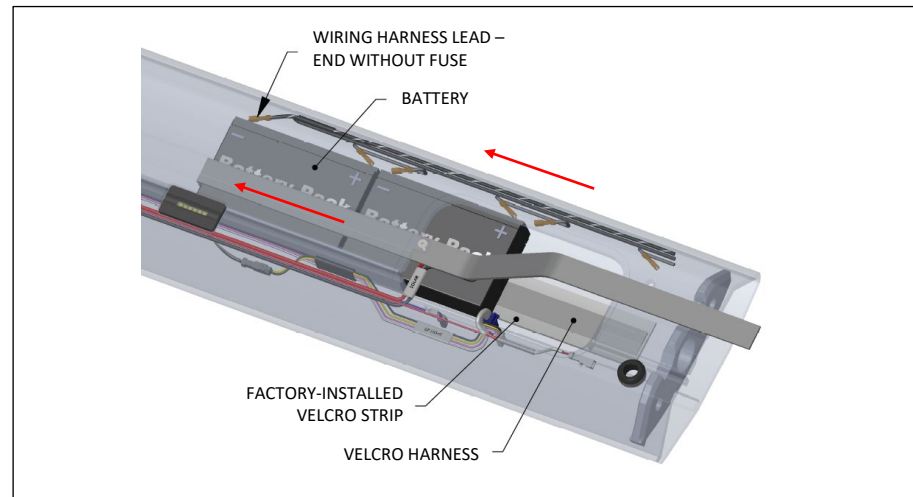
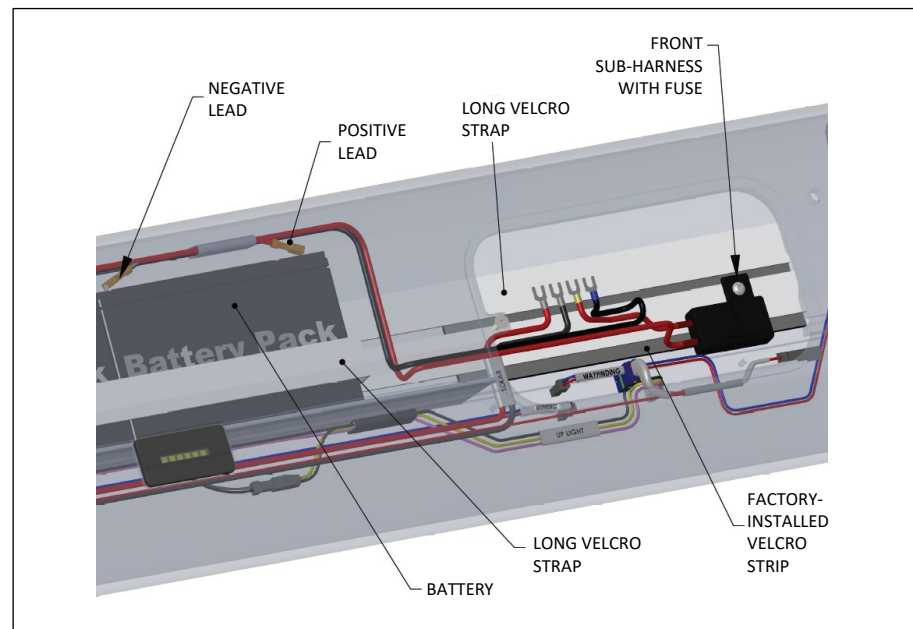
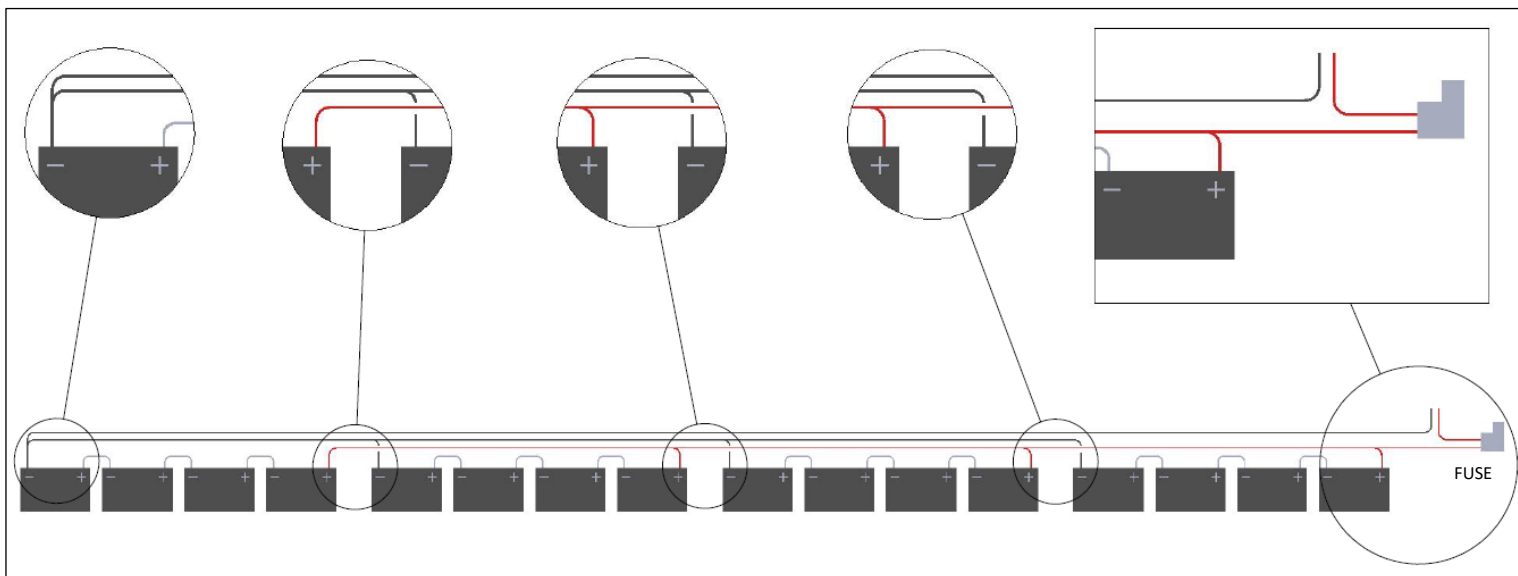

Fig. F2 – battery install in front horizontal
Fig. F3 – battery install in front horizontal
Fig. F4 – battery connection diagram for 12ft shelter
1. Remove access cover in horizontal beam near front right post. Ensure Velcro strip is installed on front horizontal beam. Secure one end of long Velcro harness to the top half of the strip mounted in the horizontal beam. Connect (-) lead of the battery harness to the first battery (-). Install short jumper harness to the positive pole of the battery as shown in Fig. F2. Attach the other end of the jumper harness to the second battery. Install the second battery. Repeat this process for batteries 3 and 4, with the 4th battery hooking up to the main wire harness (+) connector. Repeat this process for the remaining batteries. See Fig. F4 for wiring reference. Slide each battery into Velcro harness as it is being installed. Once all batteries are installed, twist Velcro strap and secure it to the bottom of the mating Velcro strip in the horizontal beam, see Fig. F3.